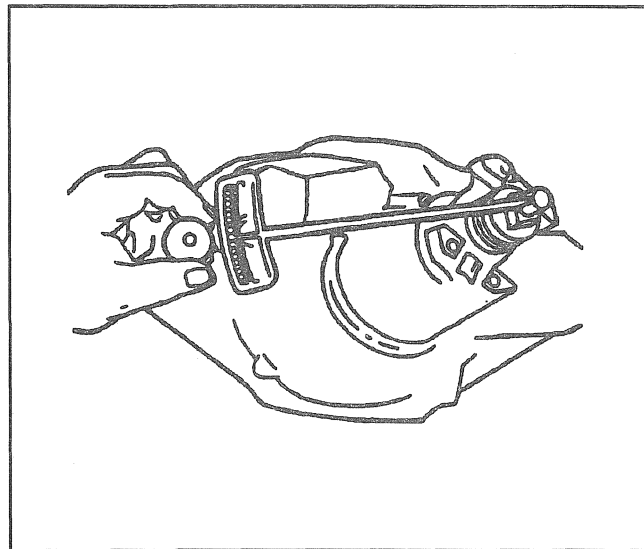

Figure 5—Checking Pinion Preload
- Drive pinion bearing preload with an inch pound torque wrench and record for use when reassembling the pinion (Figure 5).